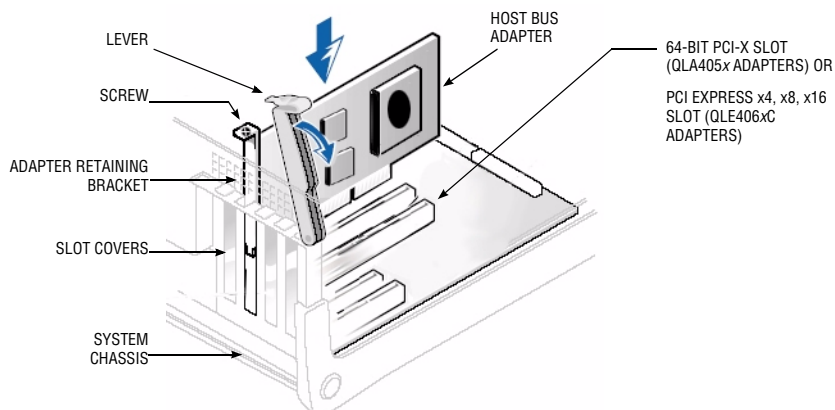

Figure 1. Illustration of Server Motherboard and Slots
6. Grasp the adapter by the top edge and seat it firmly into the slot (see Figure 1).